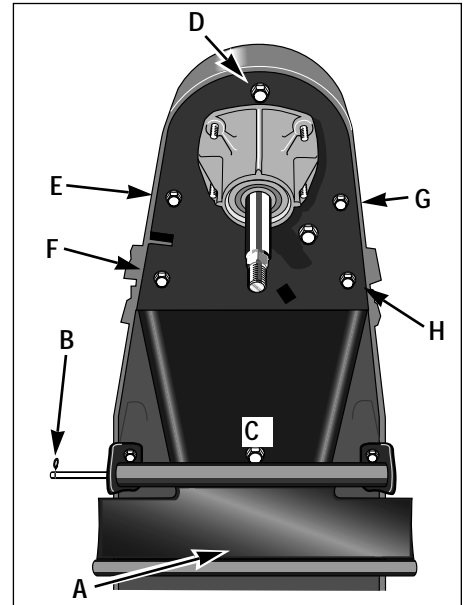

Figure 5-3
2. Remove the rubber debris flap (A, Figure 5-3) by removing one of the small E-rings (B) at the ends of the retainer rod and then sliding the retainer rod out.
3. Remove the rear belt cover by using a 1/2" wrench to remove the screw (C, Figure 5-3) in the rear belt cover. Examine the belt. Feed it around the rear (engine) pulley so the entire belt can be examined. If cracks or other damage are noted, a new belt is needed. Otherwise, clean and reinstall the belt cover and debris flap.
5. With a 1/2" wrench, remove the screw (D, Fig. 5-3) from the front belt cover-spindle mounting plate. Then remove the other four screws securing the belt cover-spindle mounting plate (E, F, G and H, Fig. 5-3). Carefully lower the drive housing and the belt cover-spindle mounting plate. Note precisely how the belt is routed along the pulleys. (See Figure 5-6.) Slip the belt off the rear pulley (H, Figure 5-6), then off the other pulleys. NOTE: The nut on the idler arm V-pulley must be removed in order to take off the belt (the screw may need to be held with an Allen wrench). Install the new belt along the exact same path.